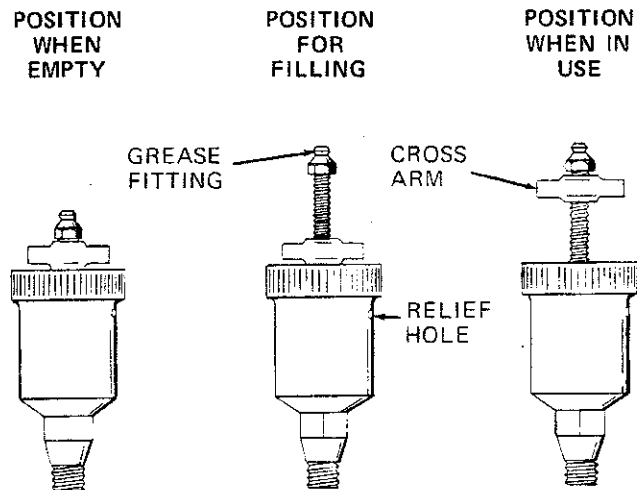

Figure 3. Automatic Lubricating Grease Cup
Before removing the seal assembly, turn the cross arm on the seal grease cup (69) clockwise until it rests against the cover (see figure 3). This will prevent the grease in the cup from escaping after the seal is removed.
Before starting the pump, fill the grease cup through the grease fitting with a good grade of No. 2 pressure gun grease until grease escapes from the relief hole. Turn the grease cup arm counterclockwise until it is at the top of the stem; this will release the spring to apply the grease to the seal (see figure 3).